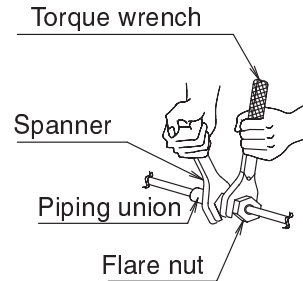

Fig. 13
- Be sure to use both a spanner and torque wrench together, as shown in the drawing, when connecting or disconnecting pipes to/from the unit. **(Refer to Fig. 13)**